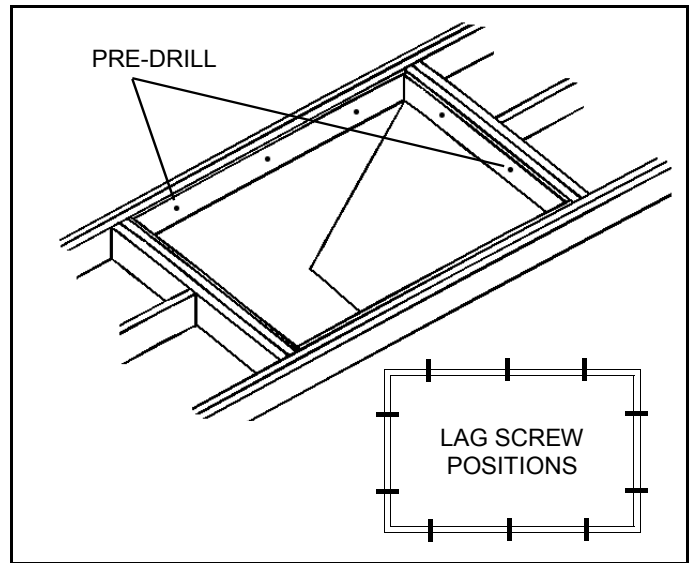

Figure 6
4. Shim and anchor stair to frame using lag screws. Pre-drill holes first. Figure 6